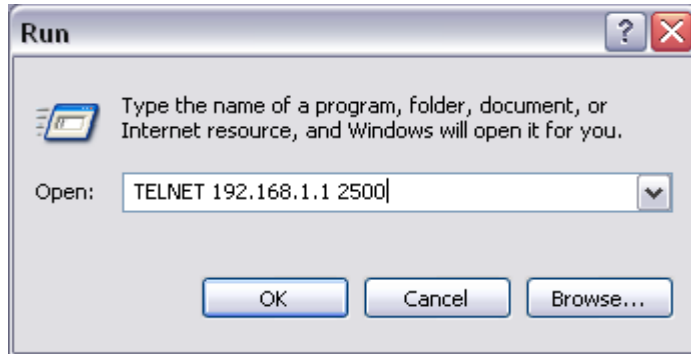

Figure 19 Run Screen
3. Figure 19 will be displayed. Type TELNET XXX.XXX.XXX.XXX 2500 and press the OK button. The XXX.XXX.XXX.XXX is the IP address of the ENTA.